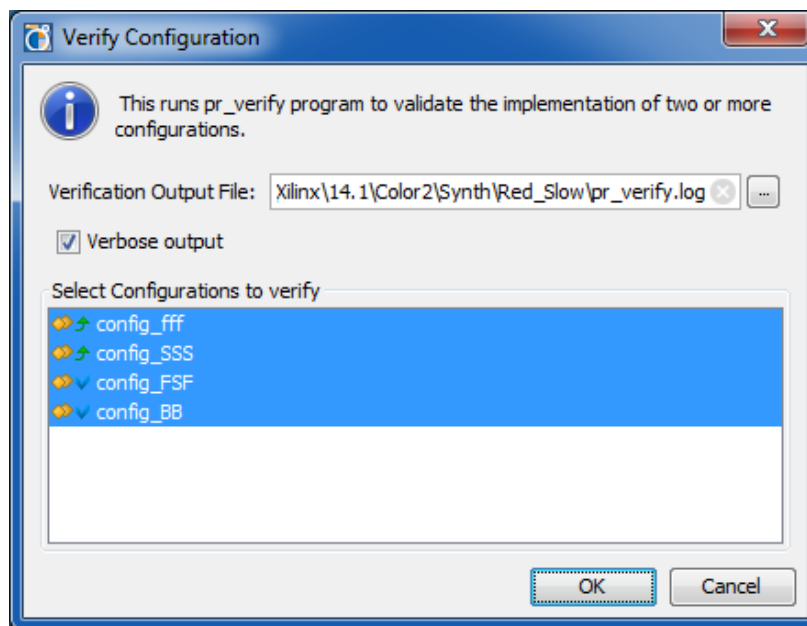

Figure 4-37: Selecting Configurations to Verify
2. The dialog box, shown in Figure 4-37, prompts for two or more Configurations, and you define the output file.